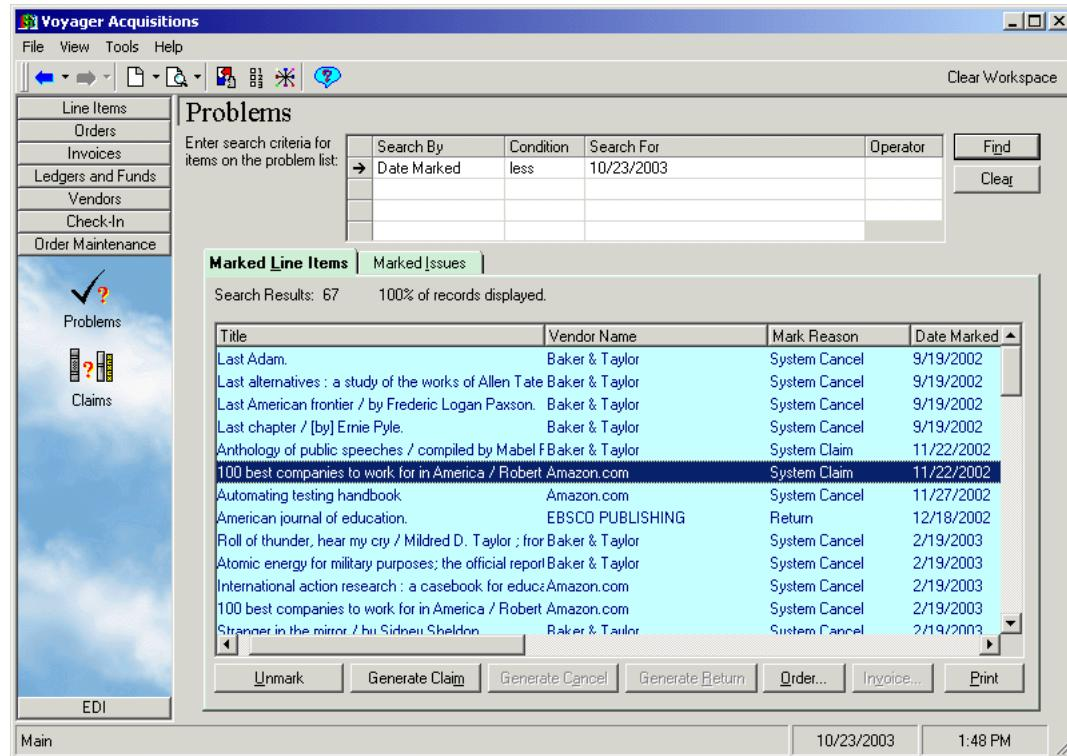

Figure 2-104. Problems workspace search results
7. To process an item, select it and click the wanted action button (see Figure 2-104). See Problems Workspace on page 11-17.